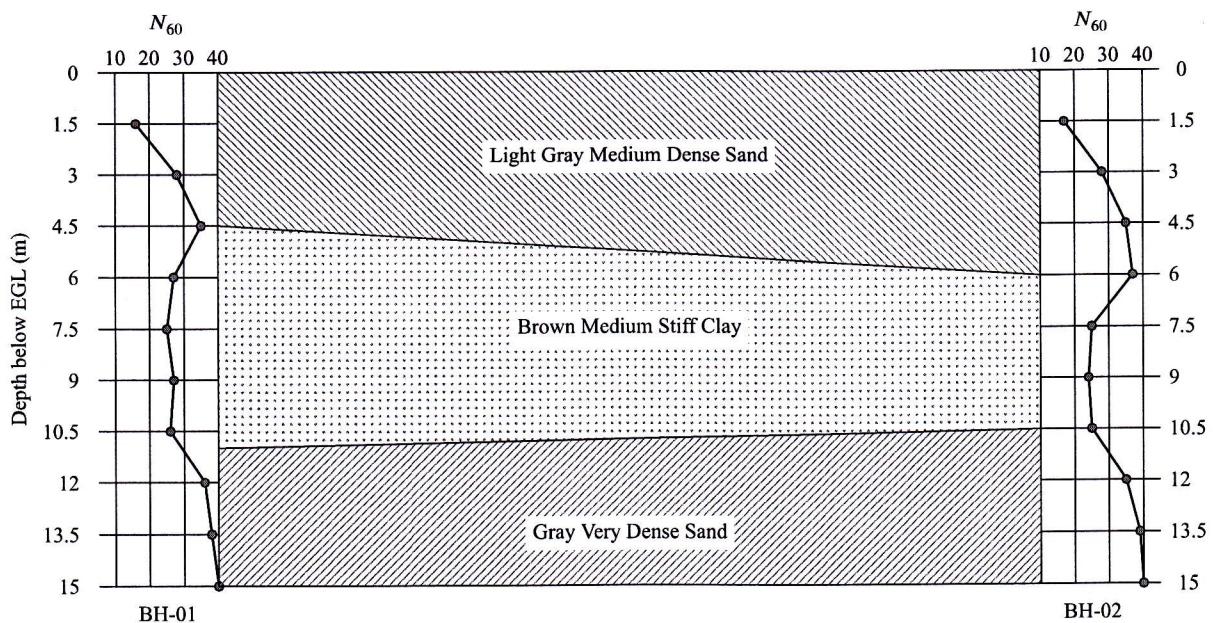

Figure 1
1. (a) A soil profile obtained from the Standard Penetration Test (SPT) is shown in Fig. 1. It has been decided to provide individual shallow foundations to support the proposed structure which is a 10-storied residential building. What are the laboratory tests that required to obtain the necessary soil parameters so that the bearing capacity and the settlement of the foundations can be computed? [6]
- (b) If a clay soil sample from the soil profile shown in Fig. 1 has been obtained using a sampler having an outside diameter of 50 mm and wall thickness of 1.25 mm, do you think the sample can be used for consolidation test? [4]